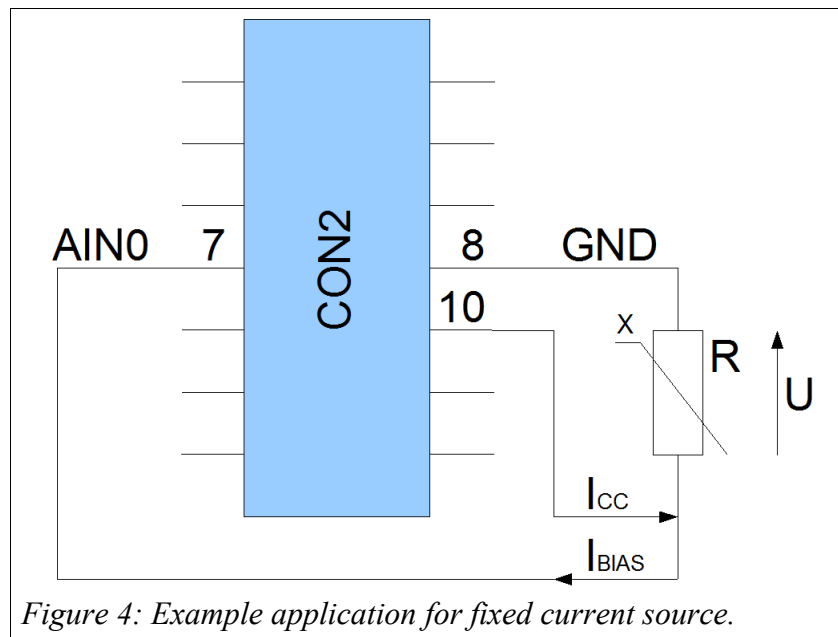

Figure 4: Example application for fixed current source.
To measure a resistor value, connect one terminal of the resistor to the Fixed Current Output and one of the analog inputs (for example AIN0), while connecting the other terminal to Cebo-MSA64(W) GND. See Figure 4 for an example setup.